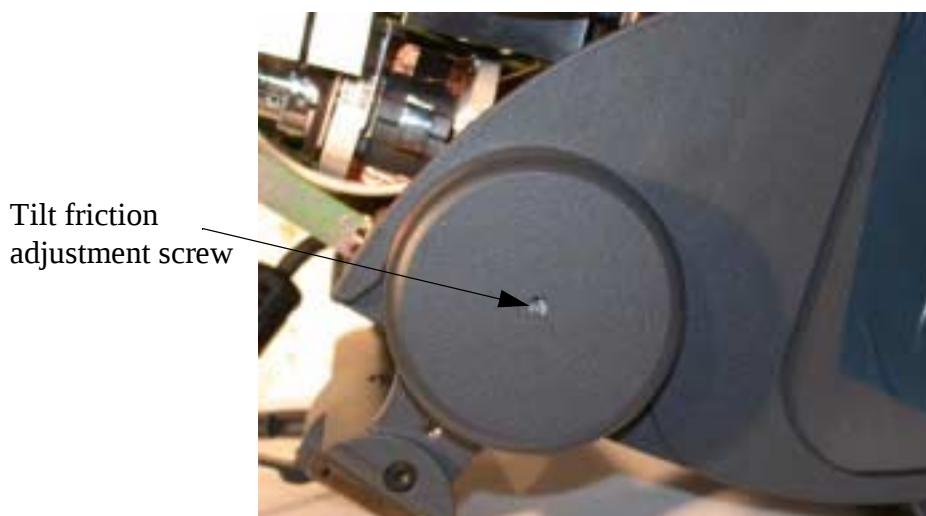

Figure 1.12 : Adjusting the viewfinder tilt friction
- The tilt friction is adjusted using the screw in the middle of the left side mounting (figure 1.12).